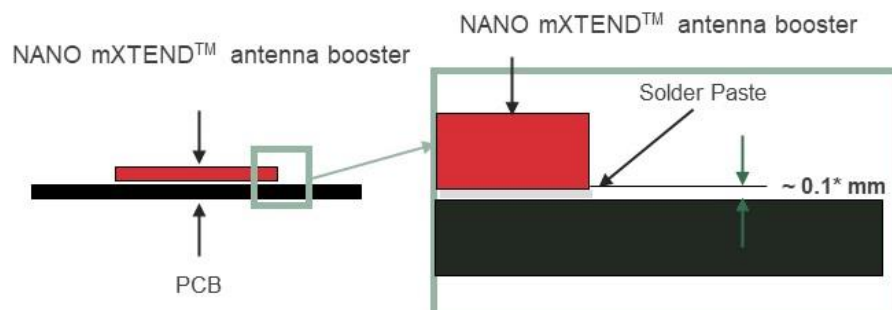

Figure 11 - Soldering details
2. Perform a reflow process according to the temperature profile detailed in Figure 11.